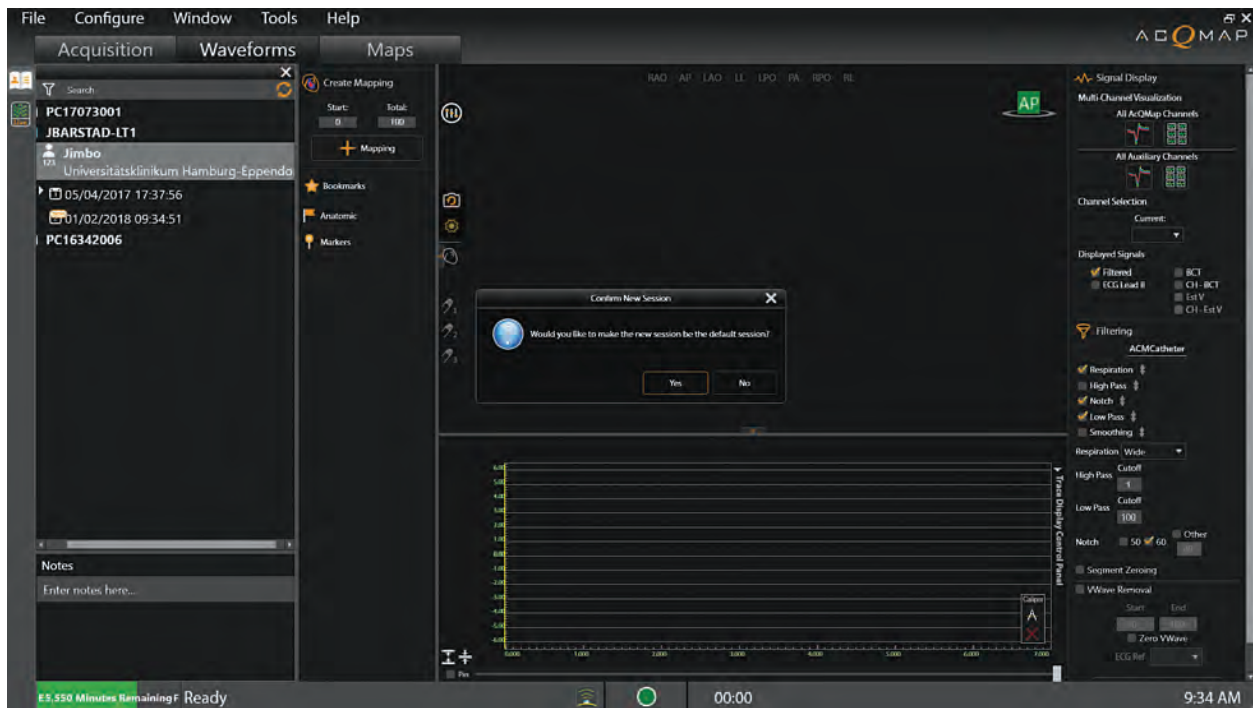

Figure 8-7. Confirm New Session and make the new session the default session.
3. A confirmation box will appear asking to "Confirm New Session". Click **[Yes]**. (Figure 8-7)